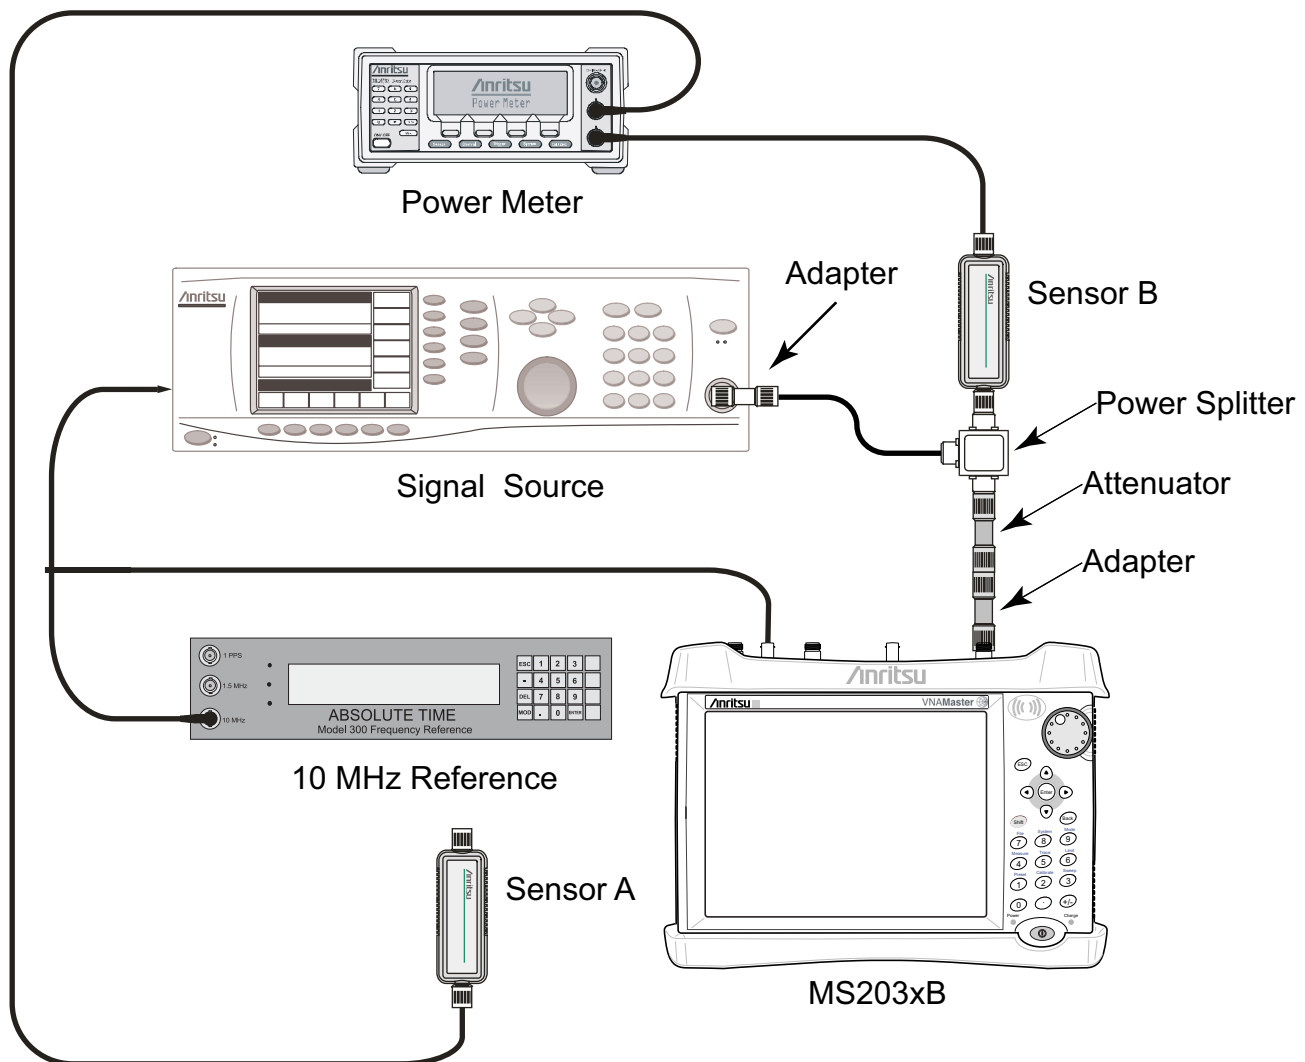

Figure 3-5. 50 MHz Amplitude Accuracy Verification Test Setup
12. Connect the open end of the 34NN50A Adapter to the RF In connector of the VNA Master as shown in Figure 3-5.